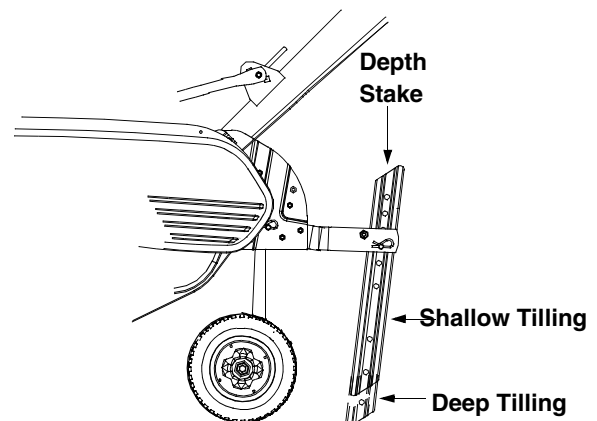

Figure 7
- Remove clevis pin and hairpin clip to raise or lower depth stake. See Figure 7.
- a. When the depth stake is lower, forward speed of the machine is reduced, and the working depth increased. See Figure 7.
- b. When the depth stake is raised, the forward speed is increased and the working depth of the machine is reduced. See Figure 7.